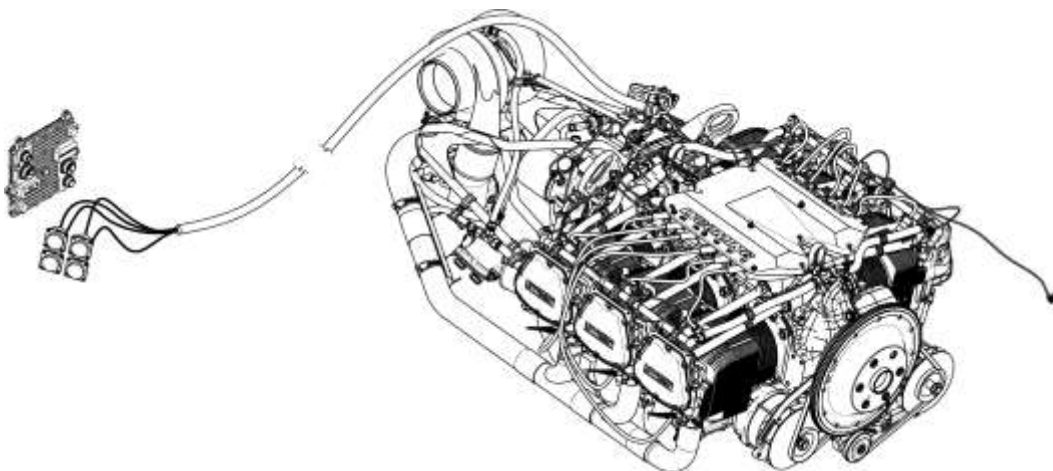

Figure 7
8. The Wiring Harness (Figure 7):